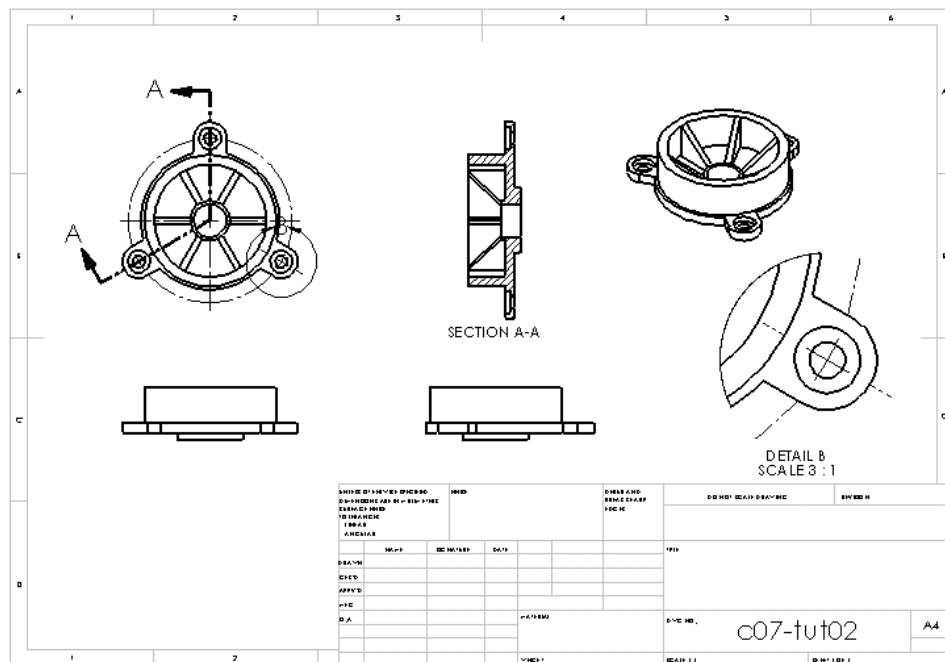

Figure 12-50 The detail view derived from the top view
- Generate the detail view, refer to Figure 12-50.
2. Draw a small circle on the right circular feature of the model in the top view, refer to Figure 12-50. As you draw the circle, the detail view is attached to the cursor.
4. Place the view on the right side of the drawing sheet above the title block, refer to Figure 12-50.
You may need to move the drawing view and its label so that the view is not overlapping the title block. Figure 12-50 shows the final drawing sheet, after generating the detail view from the top view.